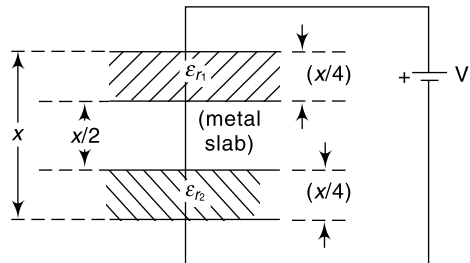

Fig. 2.59 A parallel plate capacitor (Ex. 2.55)
2.55 Two metal plates form a parallel plate capacitor with an in-between metal plate of the same material. There are two dielectric medium K_1 and K_2 having relative permittivity ϵ_1 and ϵ_2 respectively as shown in figure (Fig. 2.59). If the metal plate is removed find the work done in slowly removing the plate when a p.d. of (V) volts is applied across the capacitors.
From the given (Fig. 2.59) it is evident that the capacitor consists of two series capacitors C_1 and C_2 when C_1 is formed with ϵ_1 while C_2 is formed with ϵ_2 .